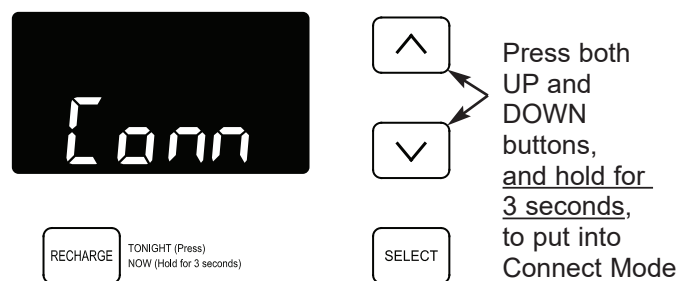

FIG. 33
3. On the water softener's front panel (see Fig. 33), press both the  $\triangle$  UP and  $\nabla$  DOWN buttons, and hold them for 3 seconds.
4. Release the buttons when “Conn” appears in the display (See Fig. 33) and the connection status light above the control panel begins flashing amber.